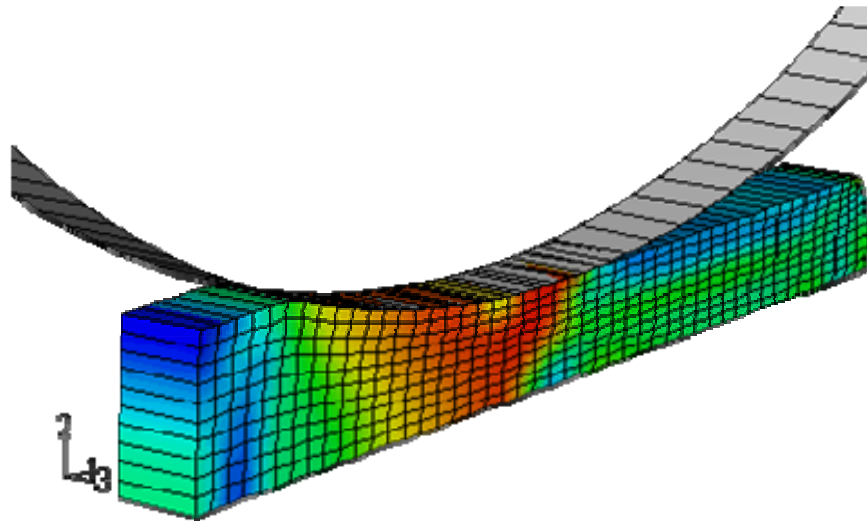

Figure W15–7 Mises stress contours.
6. Plot the contours for **MISES** stress and plastic strain **PEEQ**. The contours for Mises stress are shown in Figure W15–7.